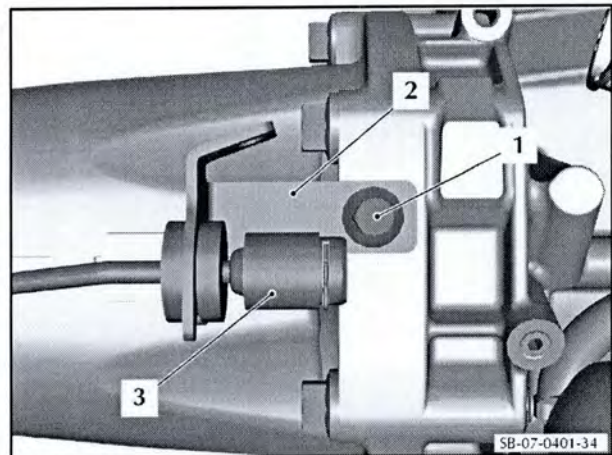

Figure 34
62. Remove the screw (1) that attaches the attachment bracket (2) for the tube assembly (3) to the torque tube (refer to Figure 34).